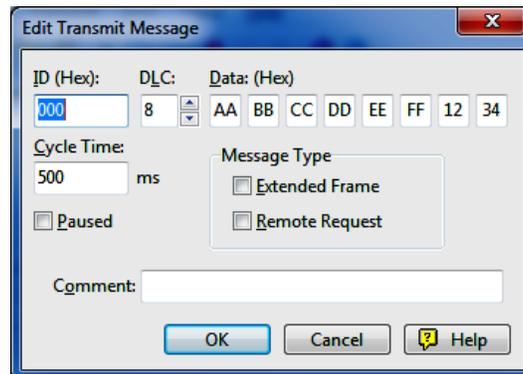

Figure 34 • Edit Transmit Message
2. Enter the message in **ID (Hex)**, **DLC**, and **Data: (Hex)**. Figure 34 shows an example message.